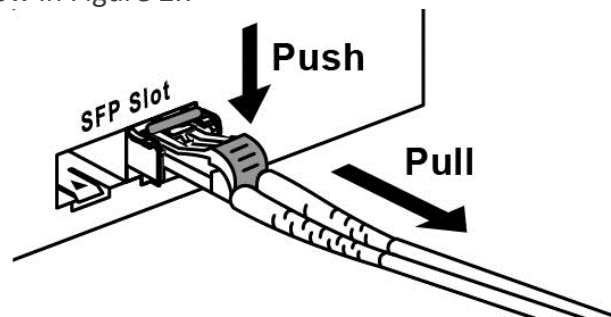

Figure 2.7: Remove LC Connector
Step 1 Press the upper side of the LC connector from the transceiver and pull it out to release as shown below in Figure 2.7